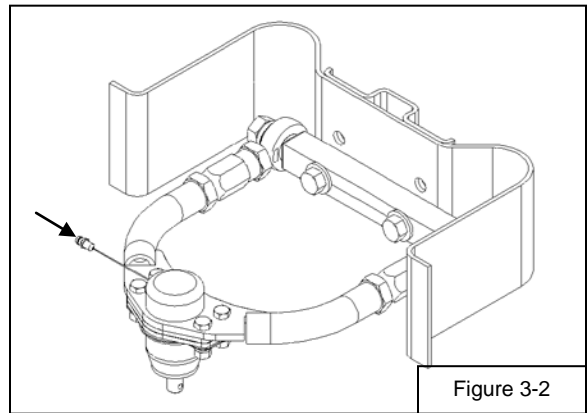

Figure 3-2
- b. Zerk fitting is installed after balljoint is secured to arm (Figure 3-2).